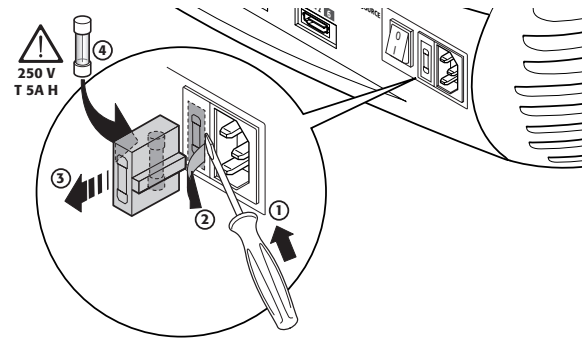

Fig.2
The fuse compartment is next to the power supply connector (Fig. 2). Remove the fuse holder (2) with a flat head screwdriver and replace the fuse (3). Fit a new spare fuse (4). Use only T 5A H fuses.